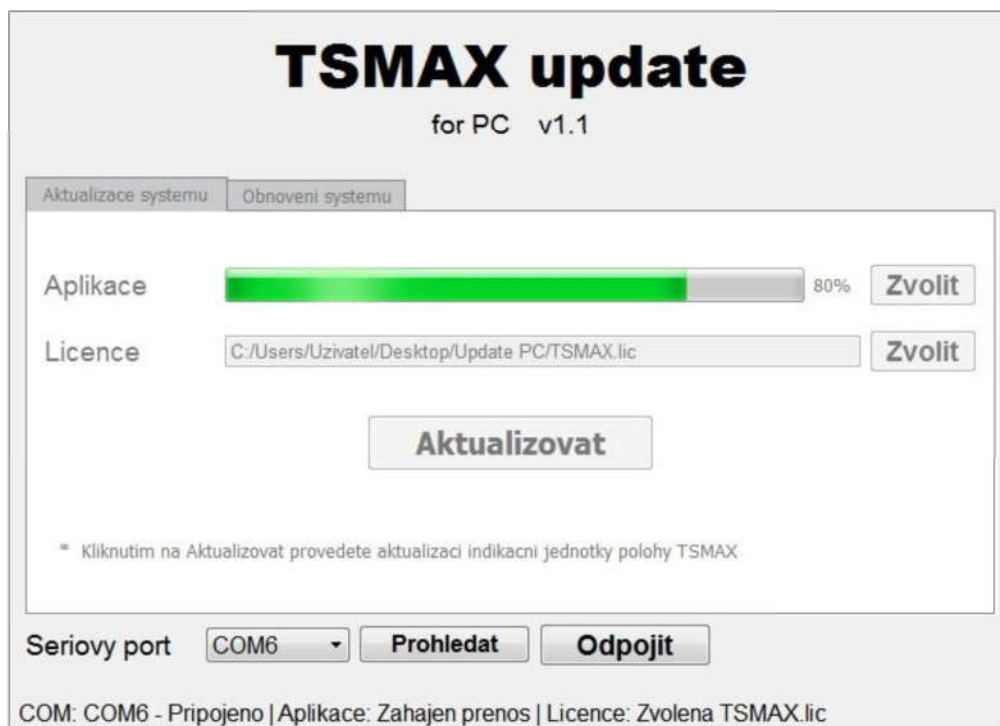

Fig. 54: System update – update in progress
- ⑩ After the update the file transfer commences into the application (see fig. 54: System update – update in progress).